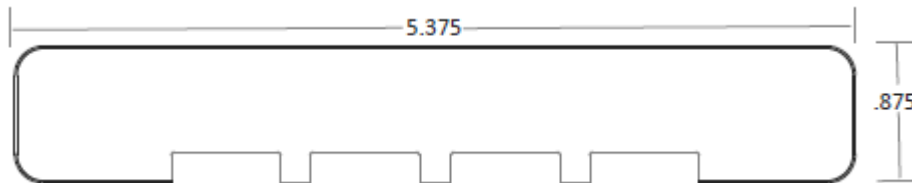

FIGURE 3 – ENDECK® AIR STRAIGHT EDGE DECK BOARD
3.2 *Endeck® Air* deck boards have a solid cross section with nominal rectangular dimensions of 7/8 inch thick by 5-3/8 inches wide and have a recessed-ribbed bottom surface. The *Endeck® Air* Deck boards are semi-capped (three sides). See Figure 3.